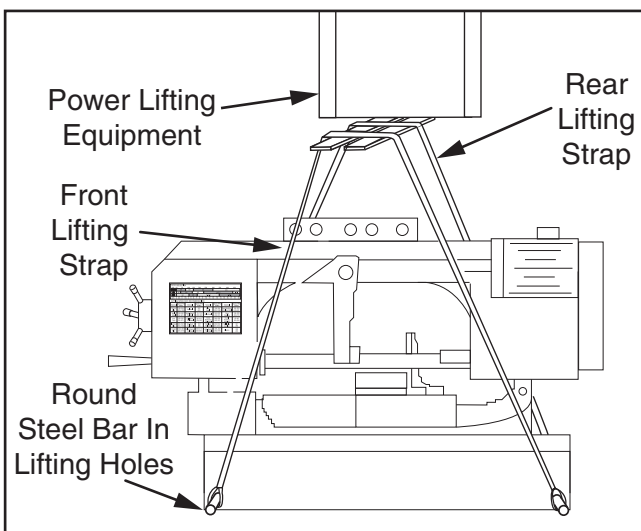

Figure 8. Lifting machine with forklift and lifting slings.
3. Insert round steel bar stock through (4) lifting holes in machine base (see **Figure 8**).
4. Attach lifting slings to steel bar stock and power lifting equipment (see **Figure 8**).